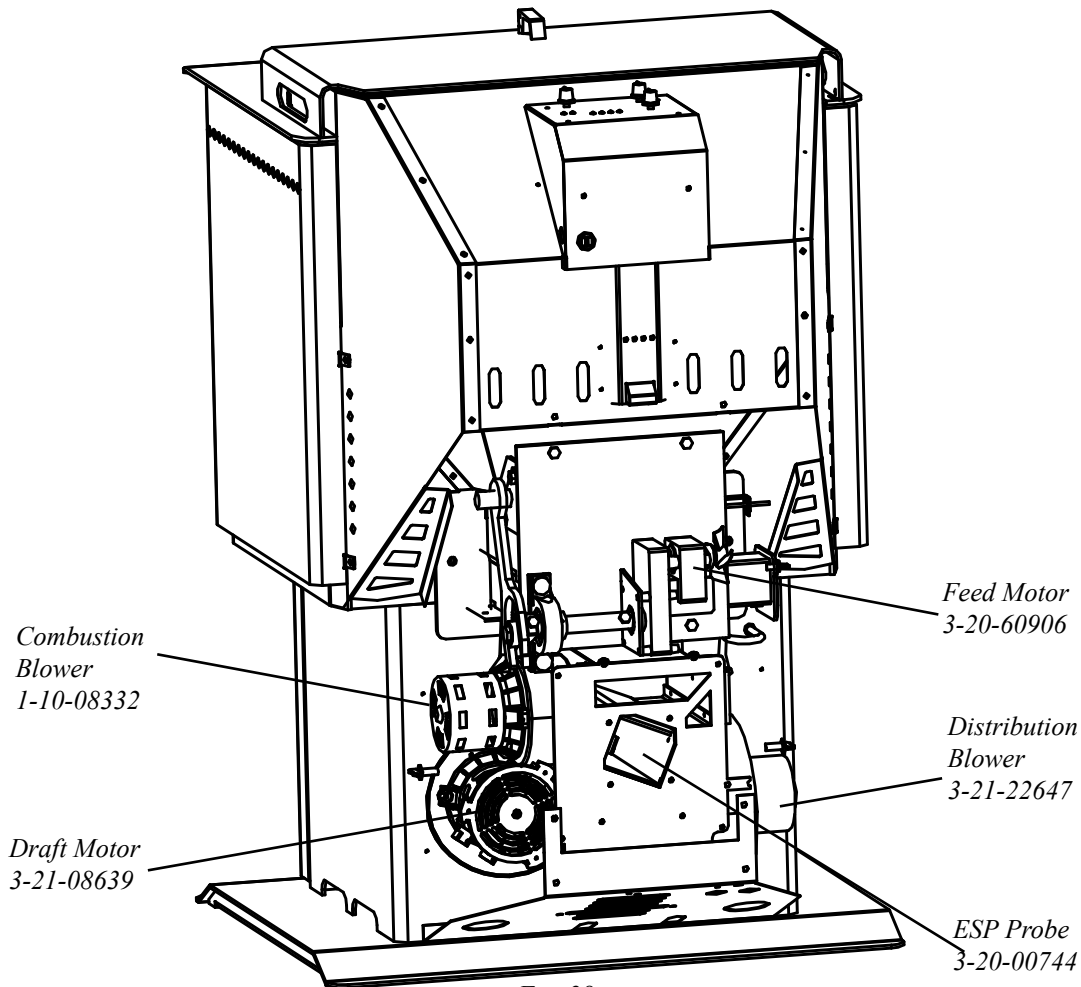

Fig. 28
4. The blower wheel, blower housing, and exhaust outlet can now be cleaned with a brush and vacuum cleaner. **NOTE:** The ESP probe is located at the rear of the exhaust outlet shown in fig 28. **Be careful not to damage the probe when cleaning.**